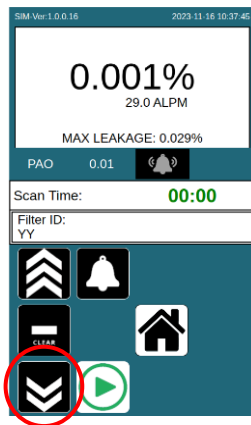

Figure 10. Downstream key
**Step 3.** For a Quick Scan, press the Downstream key (Figure 10) to begin scanning. Data is not saved.